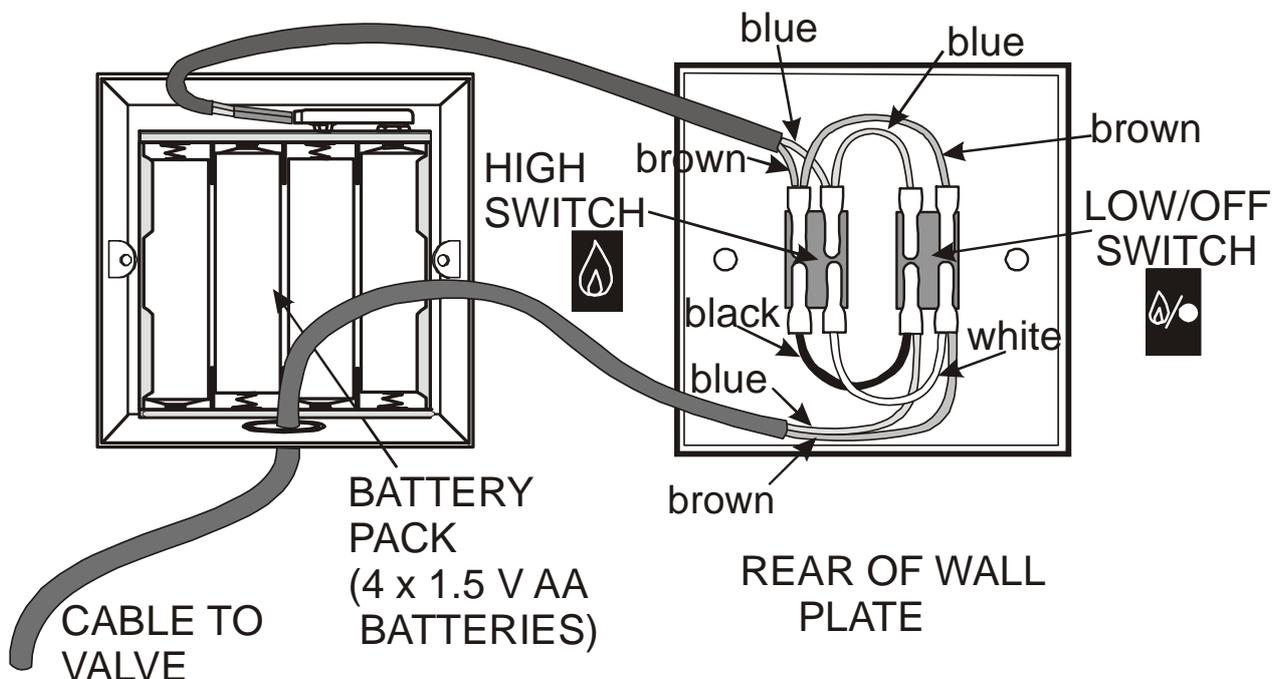

Figure 47
3. Make the connections on the wall switches as shown in **Figure 47**.